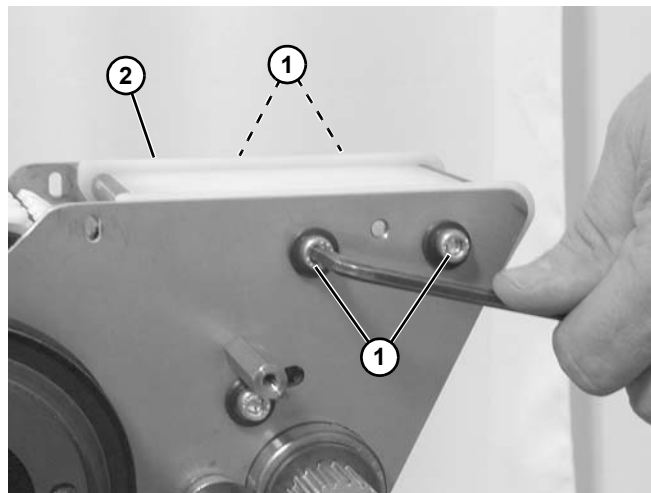

Figure 162
9. Remove four socket head screws (**Figure 162, item 1**) holding wear bar assembly (**Figure 162, item 2**) onto power transfer.